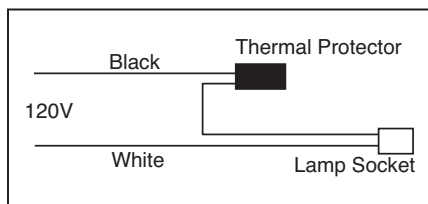

Figure 10
Non-Metallic (NM) Cable. Remove appropriate D-shaped NM cable knock-out(s). Insert NM cable through NM cable trap and make a 90° L-shaped bend in cable as shown (Fig. 10).